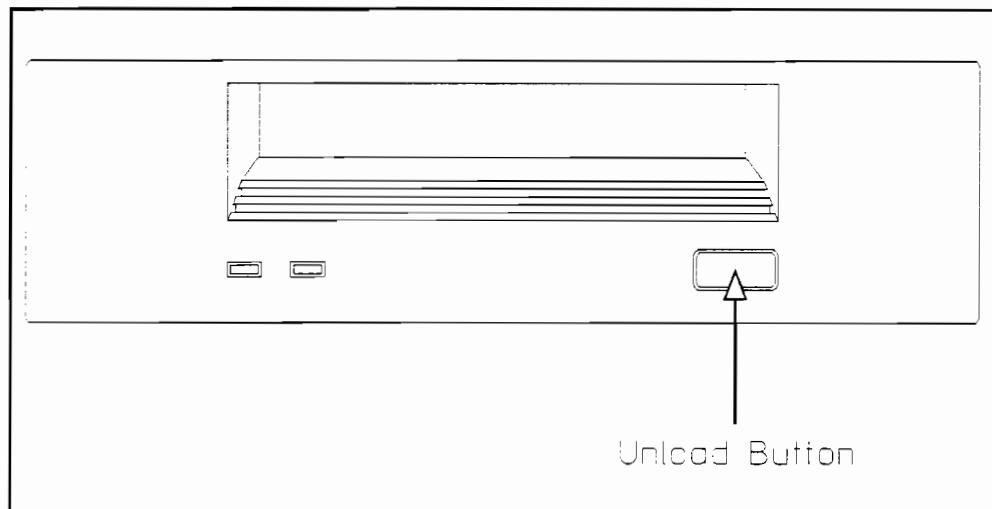

Figure 4-4. Unloading a Cassette
1. Press the unload button on the front panel. See Figure 4-4.